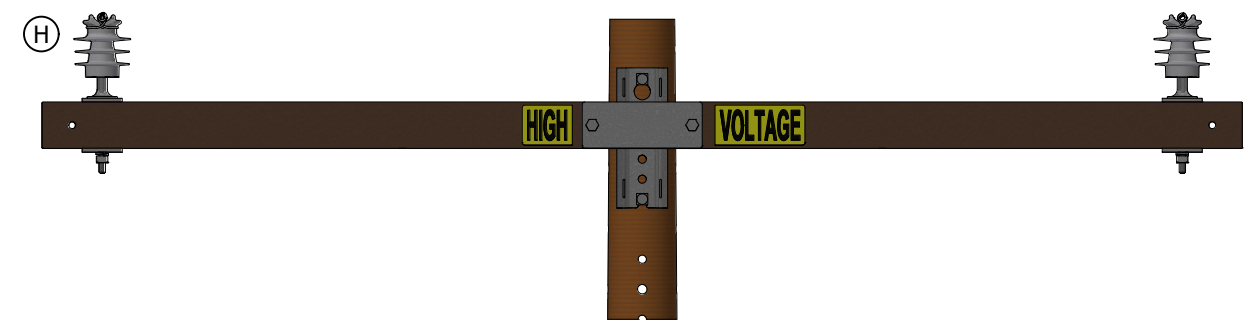

FIGURE 1
- (A) THESE INSULATORS ARE TO BE USED ON COVERED CONDUCTOR AND AERIAL CABLE DEADENDS. THIS INSULATOR CAN BE USED ON BARE CONDUCTOR ALSO BUT IT IS NOT THE PREFERRED INSULATOR FOR THE BARE CONDUCTOR.
- (C) WHEN INSTALLING A TIE-TOP INSULATOR, THE LINE ANGLE IS LIMITED TO A MAXIMUM OF SIX DEGREES WHEN THE CONDUCTOR IS PLACED IN THE SADDLE OF THE INSULATOR AND PROPERLY SECURED WITH THE APPROPRIATE CONDUCTOR TIE. FOR LINE ANGLES GREATER THAN SIX DEGREES, THE CONDUCTOR SHALL BE PLACED ON THE NECK OF THE TIE-TOP INSULATOR AND PROPERLY SECURED WITH THE APPROPRIATE CONDUCTOR TIE. FOR CLARIFICATION, REFER TO FIGURES 1 AND 2 ON PAGE 3.
- (D) VISE-TOP INSULATORS ARE TO BE USED FOR JUMPER WIRE CONFIGURATIONS ONLY.
- (E) THE VISE-TOP INSULATOR HAS BEEN TESTED AND APPROVED FOR ALL CONDUCTOR SIZES WITH THE EXCEPTION OF #2 SOLID, #4 SOLID, AND #6 SOLID. THESE CONDUCTOR SIZES WILL BE USED WITH INSULATORS THAT REQUIRE TIE-WIRES.
- (F) VISE-TOP INSULATORS WITH UNIVERSAL JAW MAY BE USED ON ALL JUMPER TYPES.
- (G) NOT FOR USE IN CONTAMINATION DISTRICT ONE.